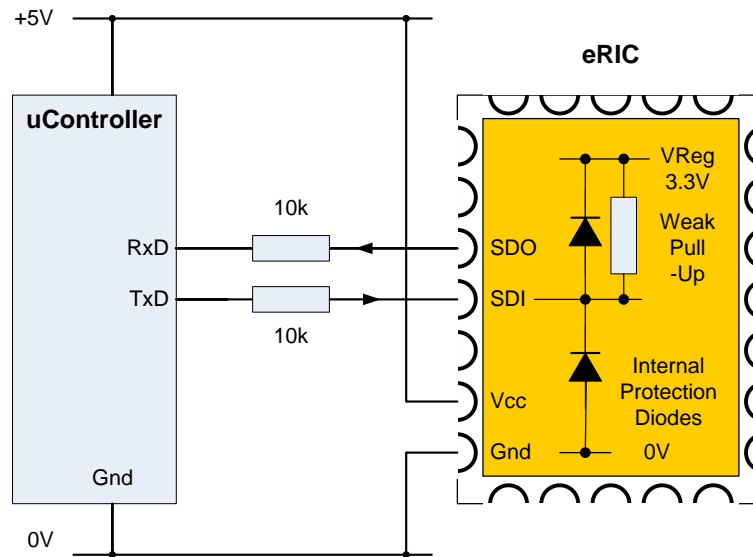

Figure 5 Connection to Host UART and I/O Protection
- A. Host (A) sends serial data to eRIC (A). The data must be continuously streamed (no breaks) at the selected host Baud rate and is loaded into an internal transmit buffer.
- C. Data within the receive buffer of eRIC (B) will be sent to Host (B) at the selected Baud rate.
Host (A) must allow time for the complete 'Over-Air' transmission and for the receiving Host (B) to unload (and process) the data before sending new data. (See Figure 5). There is no automatic 'RF handshaking' provided by the eRIC transceivers. Radio transmission and reception is bi-directional (half duplex) i.e. transmit OR receive (but not simultaneously) and there is no automatic confirmation of the satisfactory reception of the data.